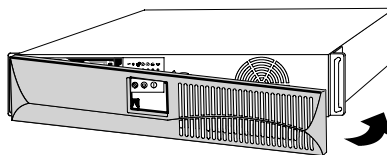

Figure 4. Replacing the UPS Front Cover
4. Replace the UPS front cover (see Figure 4).